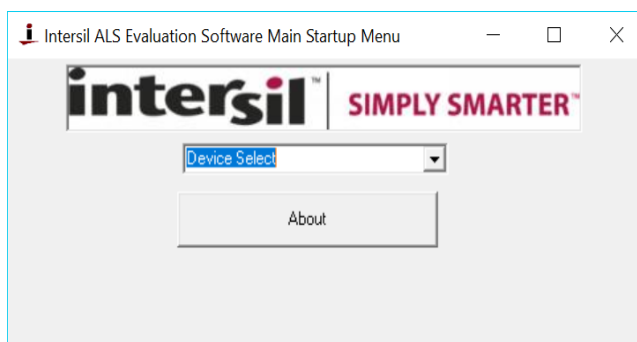

Figure 2. ALS Evaluation Software Main Startup Menu
- Double click on ISL29XXX\_HID\_v139\_1.exe. This opens the GUI as shown in Figure 2.